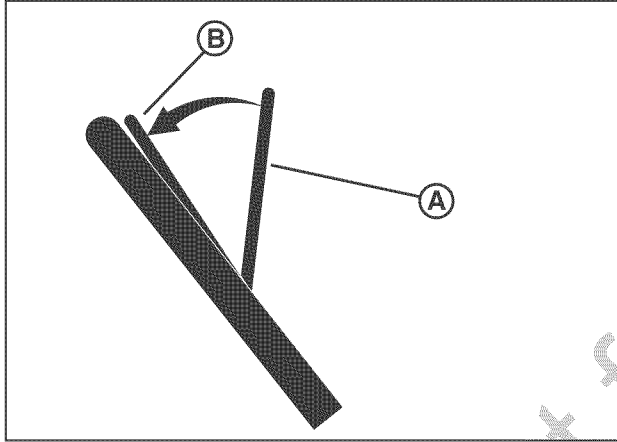

Figure 12: Operating the engine stop lever
Release the engine stop lever (A, Figure 12) and the engine and the blade will automatically stop. To run the engine, hold the engine stop lever in the Operating position (B).
1. Hold the engine stop lever (A, Figure 12) in the Operating Position (B).